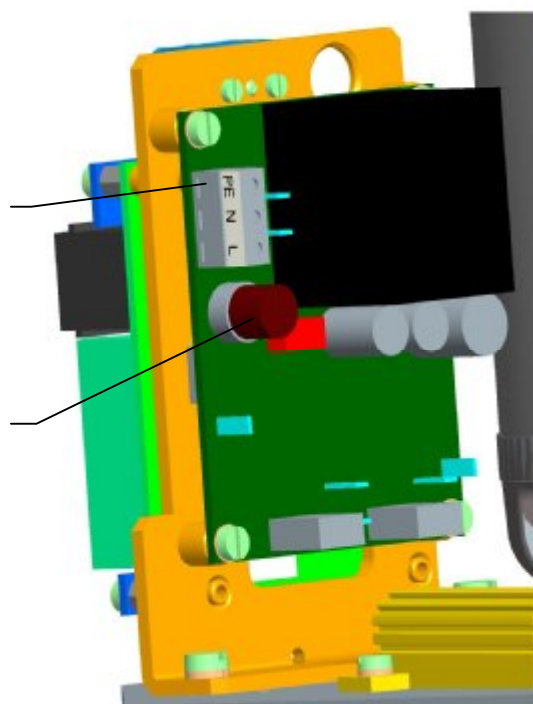

Fig.2
- for safety operation of the actuator use EA be unavoidable connect external and internal ground terminal. The position of the external a internal ground terminal (by version EA) can be seen in Fig. 2, 2a, 2b, 2c, 2d. For forcing - in wires in external ground terminal be needed use pliers HP3 for insulated eyelet (firm CEMBRE).
Actuator power supply board is installed with power supply fuse (F3). Location of the fuse on the power supply board can be seen in Fig.2.